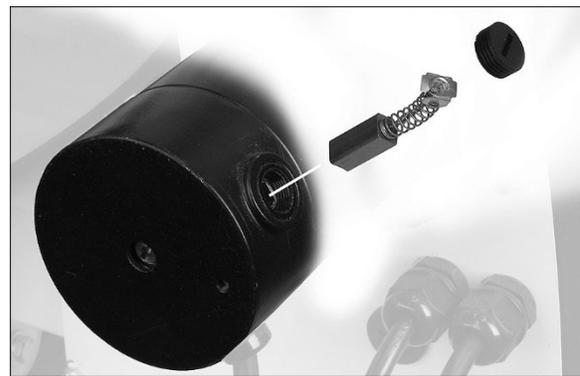

Figure 11-3: brush inspection
2. Unscrew and remove cap with flat blade screwdriver. See Figure 11-3.